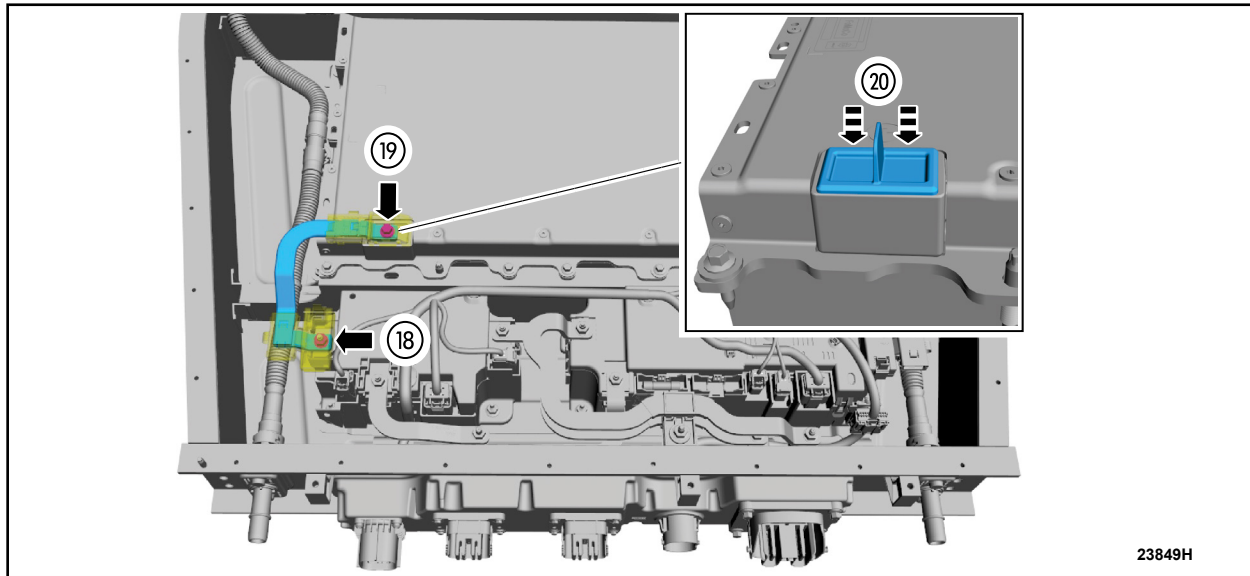

FIGURE 8
19. Open the terminal cover and remove the bus bar nut. See Figure 8.
20. Open the terminal cover, remove the bolt and the bus bar. See Figure 8.
21. Install the battery module terminal cover. See Figure 8.